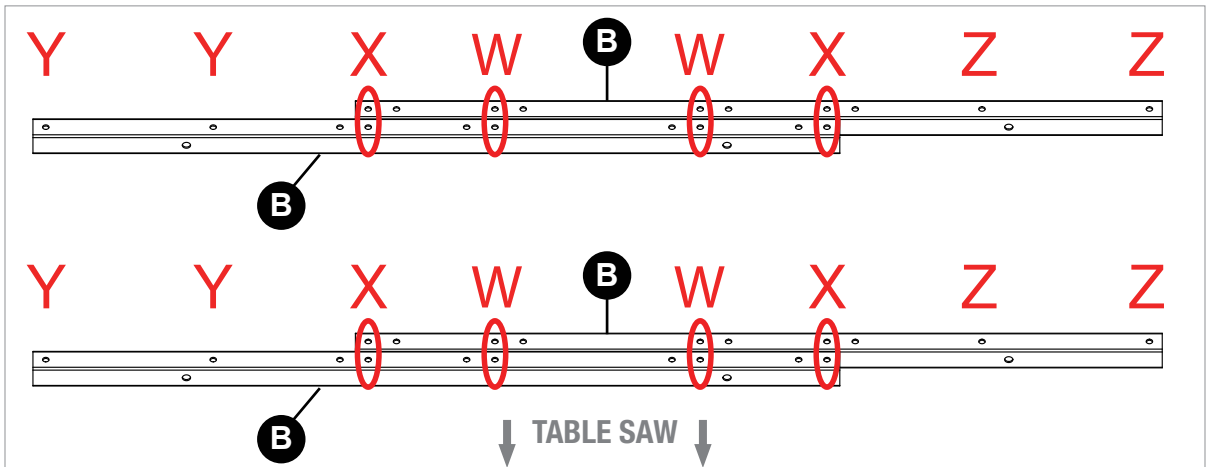
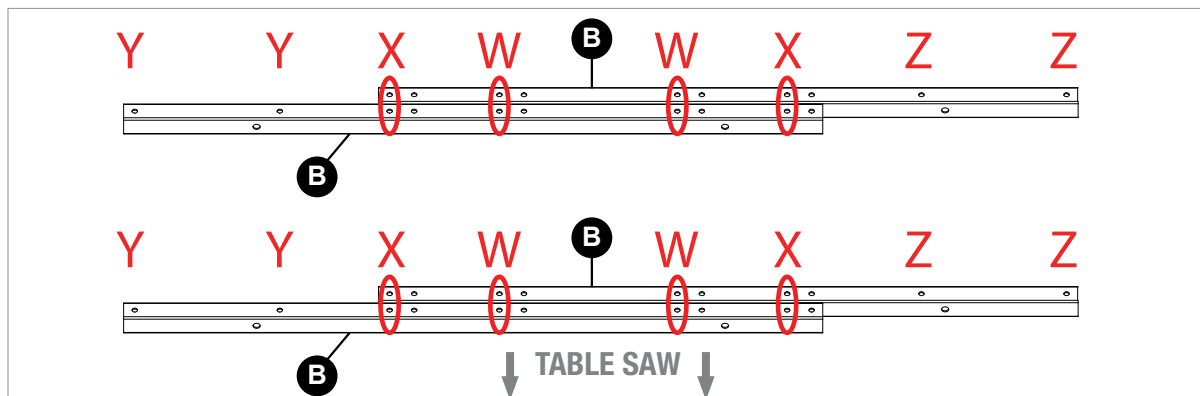

Fig. 16
Fig. 19
If all the mounting holes align, turn one of the tubes 180 degrees, so only the mounting holes at the ends line up. Then slide the table support tubes relative to one another until the non-overlapping portions of each tube have three mounting holes, and four mounting holes on each tube overlap, as indicated by the red circles in Fig. 16.
Align the mounting holes in the table tubes with the two sets of aligned holes in the center of the overlapping sections of the table support tubes (marked as holes “W” in Figure 16 on page 20). Insert an M6 x 35 socket head cap screw through one of the exposed mounting holes in one of the table tubes and table support tubes. Secure the socket head cap screw with an M6 x 16 washer and an M6 lock nut. Do not tighten the lock nut at this time.
If all the mounting holes align, turn one of the tubes 180 degrees, so only the mounting holes at the ends line up. Then slide the table support tubes relative to one another until eight mounting holes on each tube line up, as indicated by the red circles in Figure 19.
Align the mounting holes in the table tubes with the left holes in the two sets of four aligned holes in the table support tubes (marked as holes “W” in Figure 19 on page 22). Insert an M6 x 35 socket head cap screw through one of the exposed mounting holes in one of the table tubes and table support tubes. Secure the socket head cap screw with an M6 x 16 washer and an M6 lock nut. Do not tighten the lock nut at this time.
FOR ICS OR PCS SAWS ONLY: Position a solitary table tube (A) (not attached to a table roller) across the four table support tubes (B), with the clamp mounting holes on the end closest to the table saw. Align the mounting holes in the table tube with the set of aligned mounting holes in the table support tubes just to the side of the table tubes attached to the insert table (D) (marked as holes “X” in Fig. 16 on page 20).
Position the other solitary table tube (A) on the other side of the insert table, and align the mounting holes in the table tube with the set of aligned mounting holes in the table support tubes (B) just to the other side of the table tubes attached to the insert table (marked as holes “X” in Fig. 16 on page 20).
FOR CNS SAWS ONLY: Position a solitary table tube (A) (not attached to a table roller) across the four table support tubes (B), with the clamp mounting holes on the end closest to the table saw. Align the mounting holes in the table tube with the left two of the four aligned mounting holes to the side of the table tube attached to the insert table (D) (marked as holes “X” in Fig. 19 on page 22).
Slide the rear rail clamp onto the rear rail of your table saw, but do not tighten the set screw. Align the mounting holes in the table tubes with the mounting holes at the left end of the table support tubes (marked as holes “Y” in Fig. 16 on page 20), making sure that tube end caps are almost flush with the rear rail.
Slide the rear rail clamp onto the rear rail of your table saw, but do not tighten the set screw. Align the mounting holes in the table tubes with the mounting holes at the left end of the table support tubes (marked as holes “Y” in Fig. 19 on page 22), making sure that the ends of the table tubes are almost flush with the rear rail.
Position the remaining set of table tubes at the right end of the table support tubes, and slide the rear rail clamp onto the rear rail of the table saw. Align the mounting holes in the table tubes with the mounting holes at the right end of the table support tubes (marked as holes “Z” in Fig. 16 on page 20 or Fig. 19 on page 22), making sure that the ends of the table tubes are almost flush with the rear rail of the table saw.